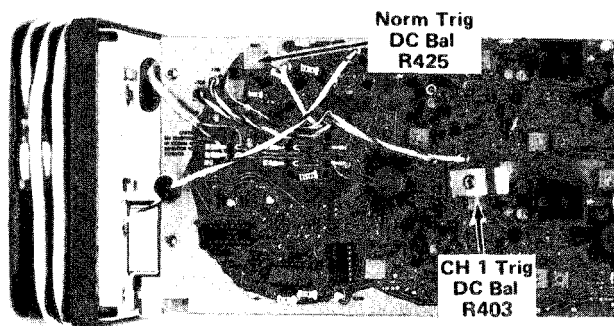

Fig. 5-21. Location of Normal Trigger DC Balance and CH 1 Trigger DC Balance adjustments.
e. ADJUST-Normal Trigger DC Balance adjustment, R425 (see Fig. 5-21), so that the display begins at the same DC level when switching the A COUPLING switch from DC to AC.
h. ADJUST-CH 1 Trigger DC Balance adjustment, R403 (see Fig. 5-21), so that the display begins at the same DC level when switching the A COUPLING switch from DC to AC.